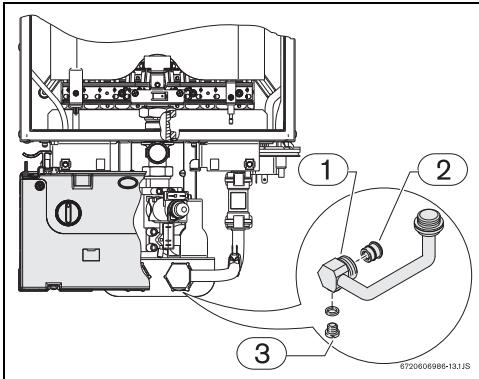

Fig. 6 Purge screw
- Loosen the purge screw (Fig. 6) located on the water inlet pipe.